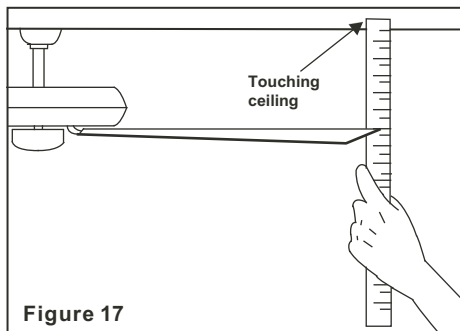

Figure 17
2. Most fan wobbling problems are caused when blade levels are unequal. Check this level by selecting a point on the ceiling above the tip of one of the blades. Measure this distance as shown in Figure 17. Rotate the fan until the next blade is positioned for measurement. Repeat for each blade. The distance deviation should be equal within 1/8".